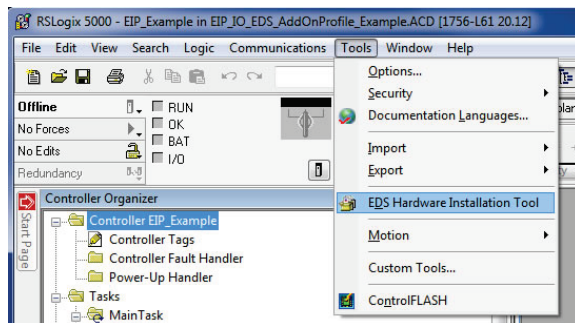

Figure 33: EDS Hardware Installation Tool Menu
- 1) Register the interface card's EDS file. In the menu bar, navigate to Tools...EDS Hardware Installation Tool. Refer to Figure 33.